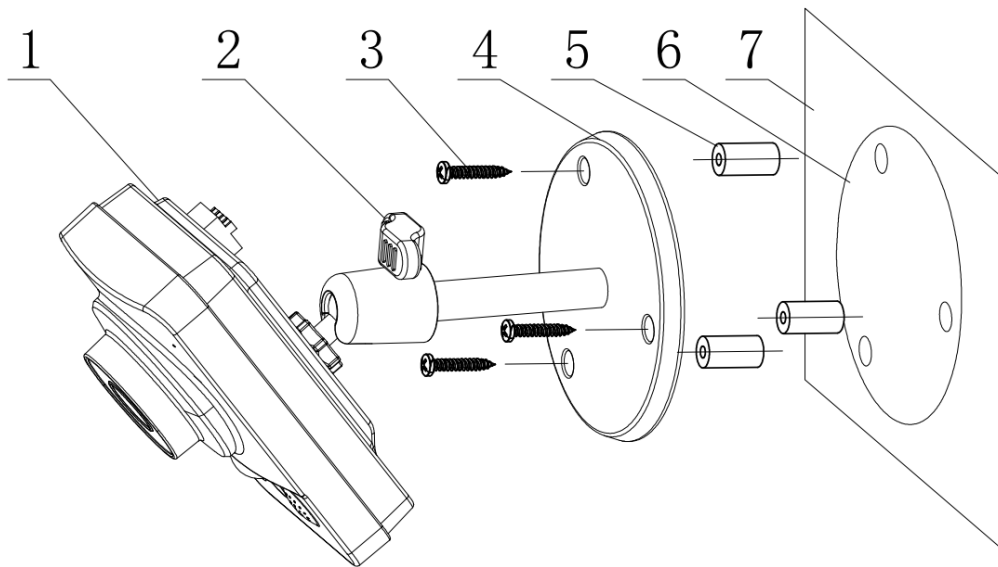

Figure 2-3 Wall installation 1
3) Open the Web, go to the Figure 2-3. Please set the alarm input and output port. Web alarm input corresponds to device I/O. Based on alarm input device signal of high or low level, set NO/NC input.